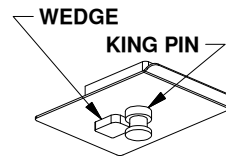
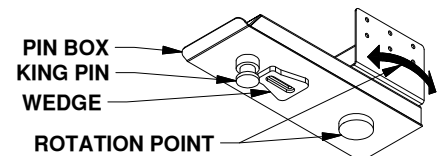

FIGURE F1: Capture plate.
FIGURE F2: pin box with rotation point.
**WARNING:** Towing a trailer without a functioning pivot point between the hitch & trailer will cause significant damage to the hitch which may lead to serious injury or death. Some pin boxes such as a Pull-rite® Superglide Capture Plate remove the pivot point between a trailer and coupler and should not be used, See Figure F1. Pin boxes with a wedge that relocates the pivot point such as a Reese® Sidewinder or Reese® Revolution may be used, see Figure F2.